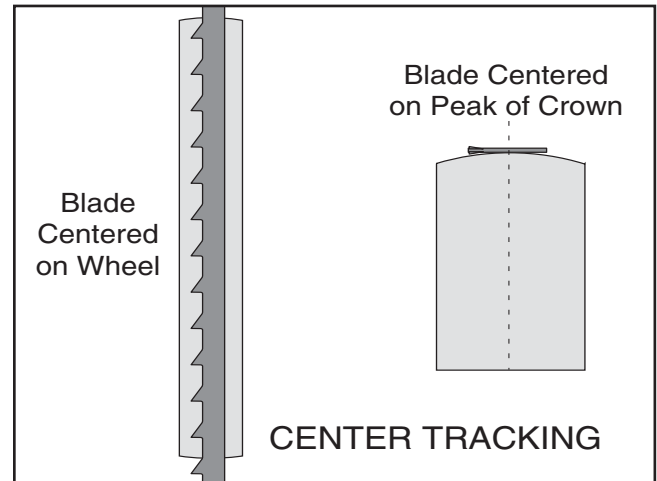

Figure 17. Center tracking profiles.
5. Spin the upper wheel by hand at least three times and watch how the blade rides on the crown of the wheel. Refer to **Figure 17** for an illustration of this concept.